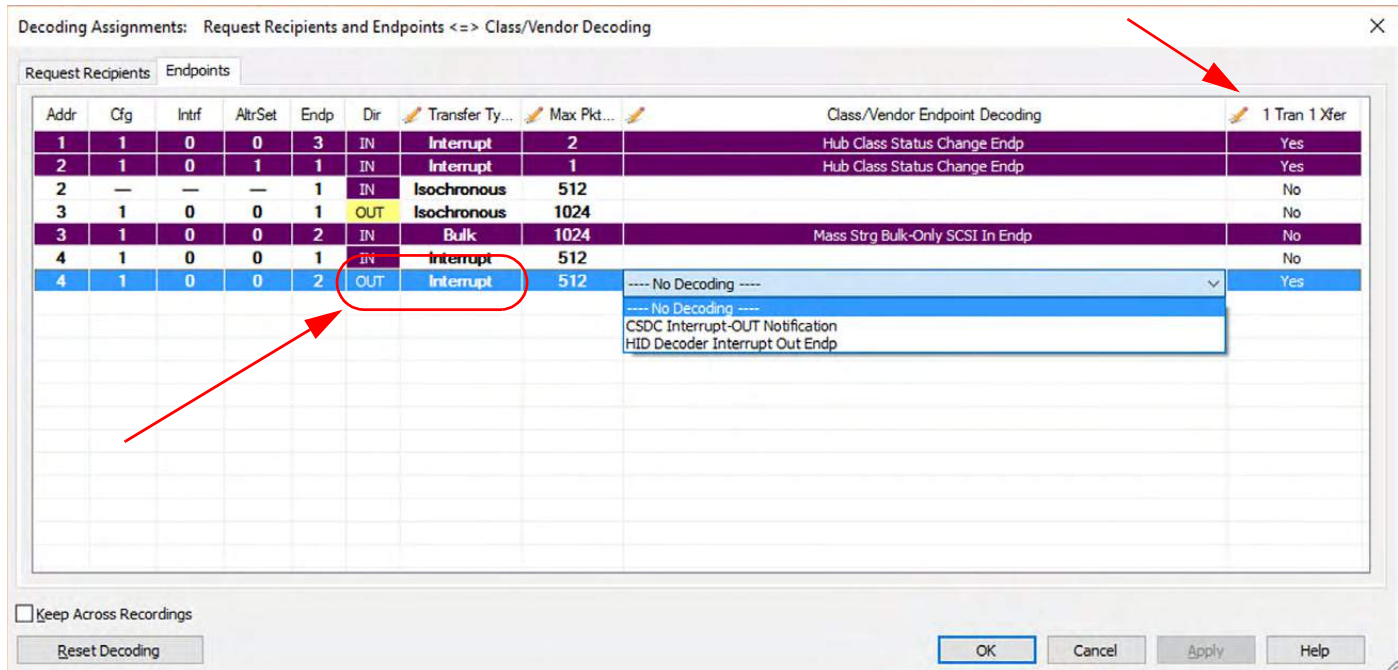

Figure 9.8: 1 Tran 1 Xfer column -> HID Interrupt OUT Endpoint Decoding
11. Display the **Class/Vendor Endpoint Decoding** drop-down menu for Interrupt OUT Transfers (see Figure 9.8):